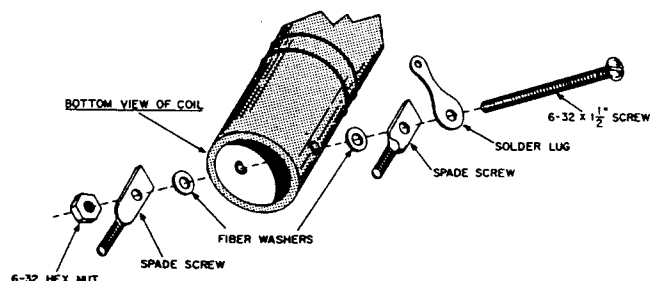

FIGURE 5. MOUNTING L-2 AND L-6
- Prepare L-6, the 6-terminal coil, for installation by attaching the spade screws as shown in Figure 5. Note that the flat side of the spade screws must be against the coil. On a 6-32x $1\frac{1}{2}$ " screw put a solder lug, a spade screw, and a fiber washer. Push the screw through the holes in the coil from the side opposite the terminals. On the threaded end
- Attach spade screws to L-2 in the same way they were fastened to L-6 (see Figure 5) except that two solder lugs are used, one on each side.